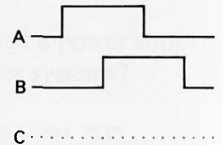

Figure C68
*Hint:* Copy the input signals shown in figure C67, and draw the output directly below, as illustrated in figure C68.